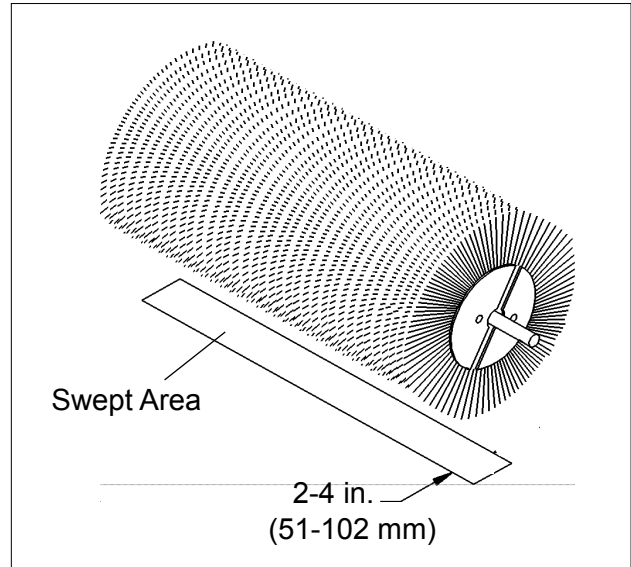

figure 1
4. Raise the sweeper and back away; switch off the engine and remove the key. The brush pattern left in the dust should be 2-4 inches (51-76mm) wide, running the entire length of the brush. (compare the swept area with figure 1)